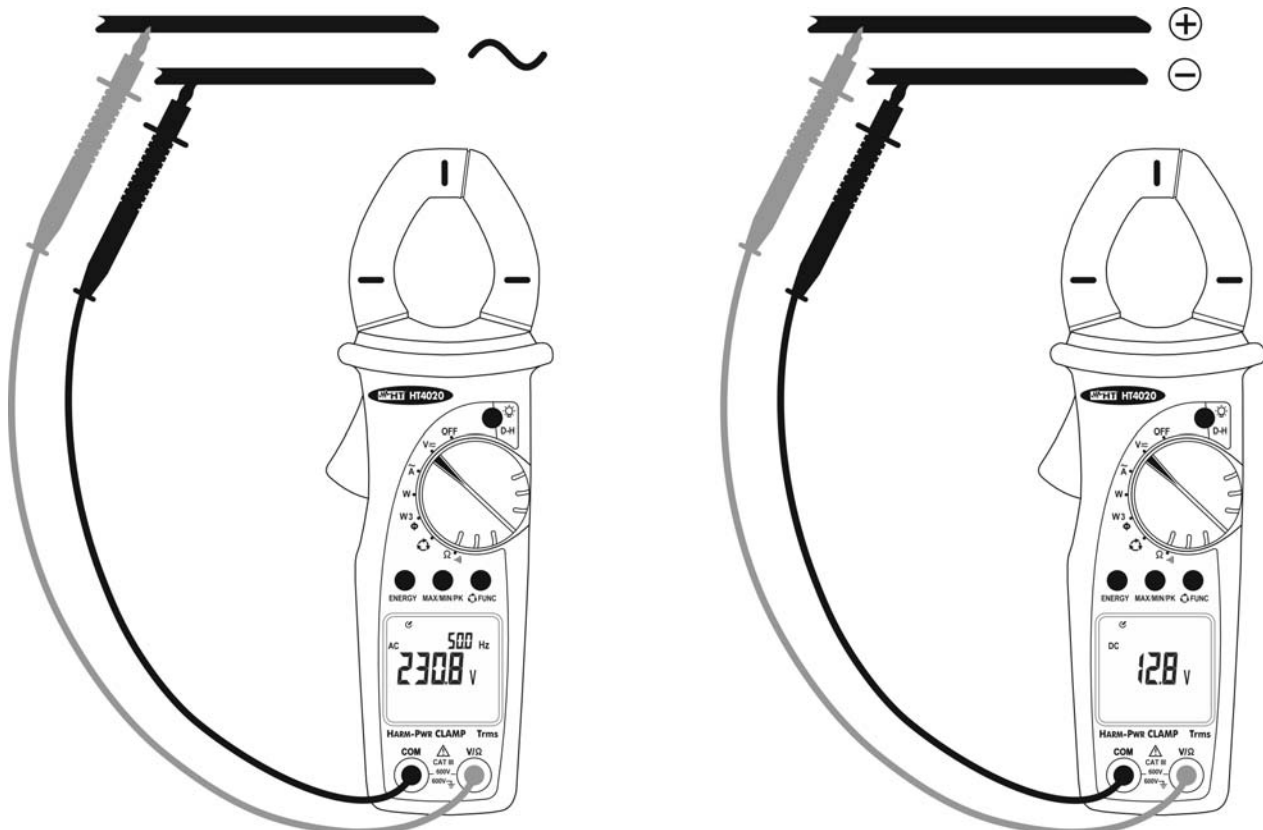

Fig. 4: Use of instrument for DC/AC voltage measurement
3. Connect the test leads to the circuit under test (see Fig. 4). The instrument automatically selects "AC" or "DC". For AC voltage measurements the frequency value is shown on the secondary display.